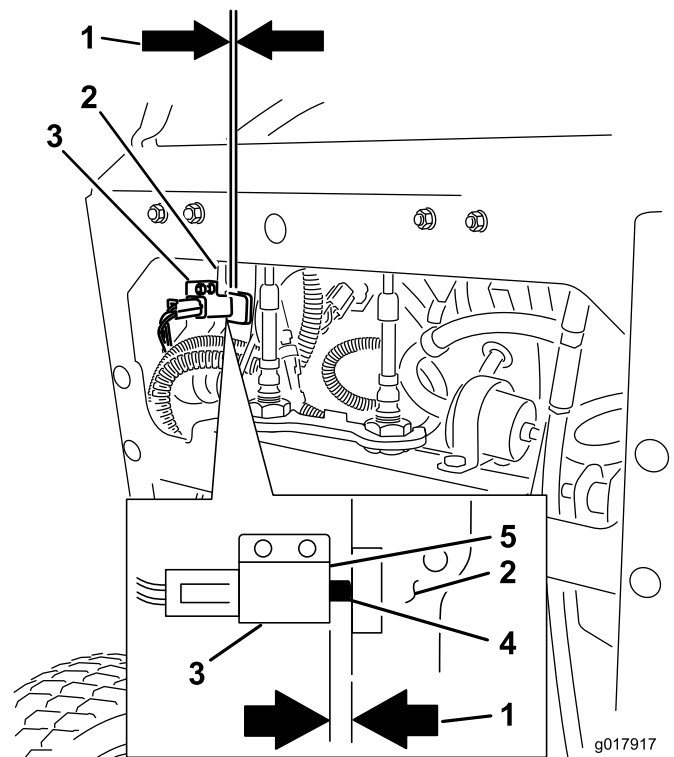

Figure 72
12. Check the gap between the brake lever and the face of the switch as shown in Figure 72. The gap needs to be an 3mm (1/8 inch) with the brake **engaged**.